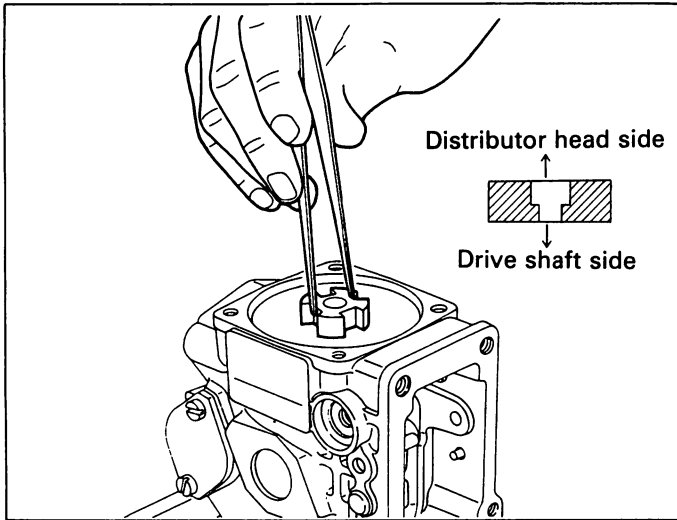

Fig. 55 Installing the disk
Mount the disk (27) on the drive shaft (12/1) so that the larger diameter disk center hole faces the distributor head side. (Fig. 55)